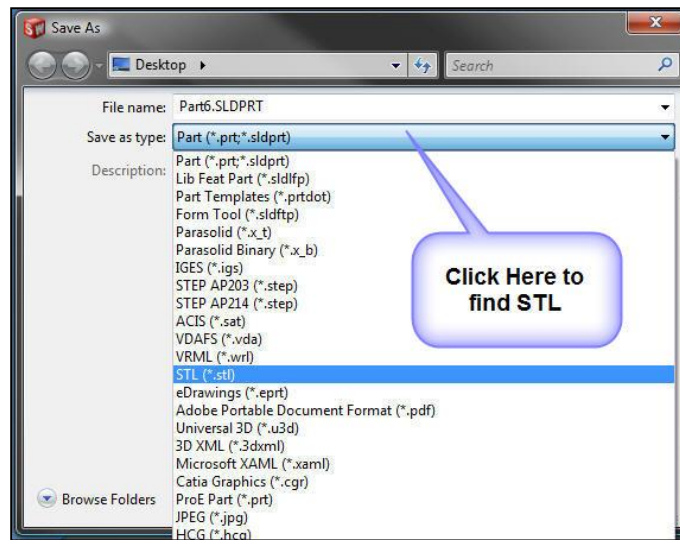

Figure 1
4. Figure 1: In the **Save As** window, drop the **Save as type** list down and select **STL (*.stl)**